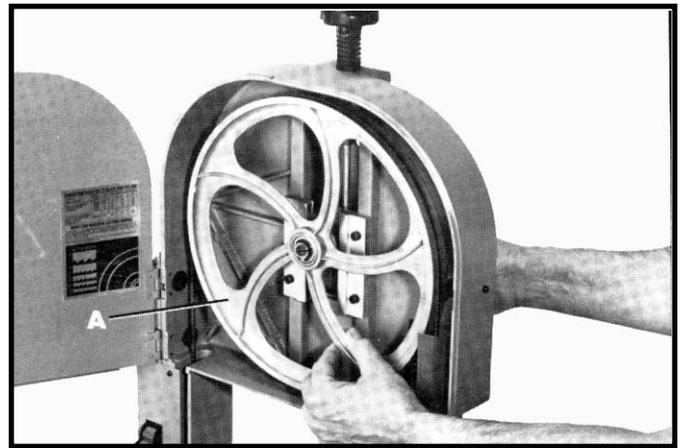

Fig. 18
3. Rotate the upper wheel (A) Fig. 18, slowly by hand to determine if the blade is riding on the center of the wheel.